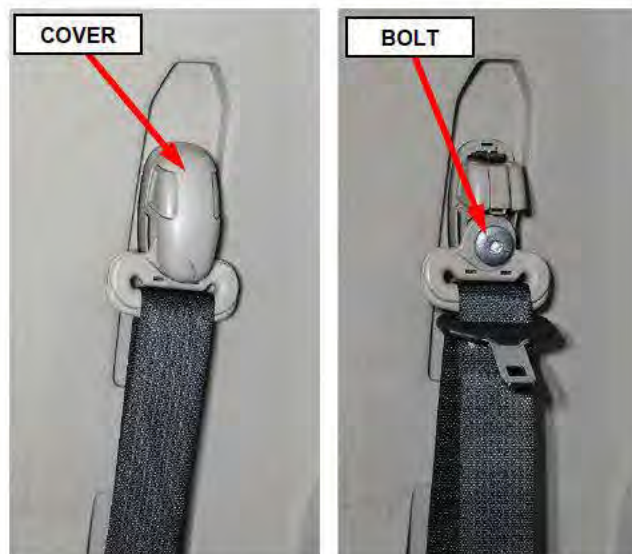

Figure 4 – Seat Belt Turning Loop
6. Separate the seatbelt turning loop cover then remove the turning loop bolt (Figure 4).
49. Using a **NEW** bolt and reusing the spacer washer, install the turning loop then tighten the bolt to 40 N·m (30 ft. lbs.) (Figure 4).
50. Install the turning loop cover (Figure 4).